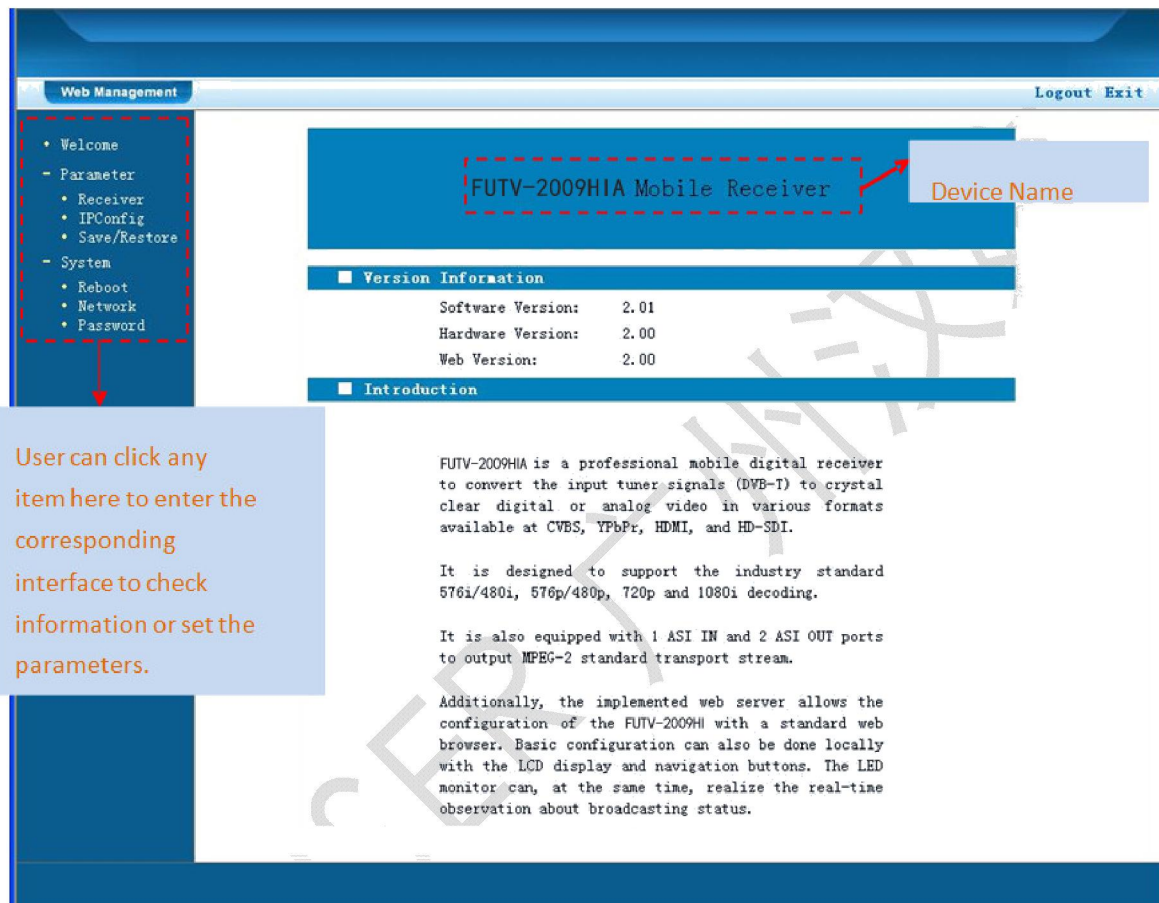

Figure-2
- Ø “*Welcome*” - When we confirm the login, it displays the WELCOME interface as Figure-2. It’s brief introduction of the receiver.